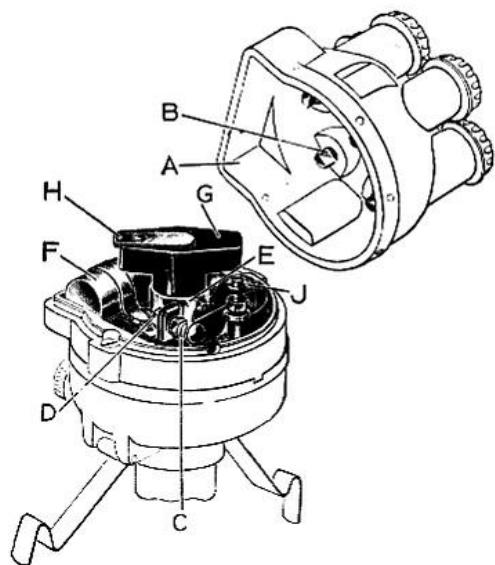
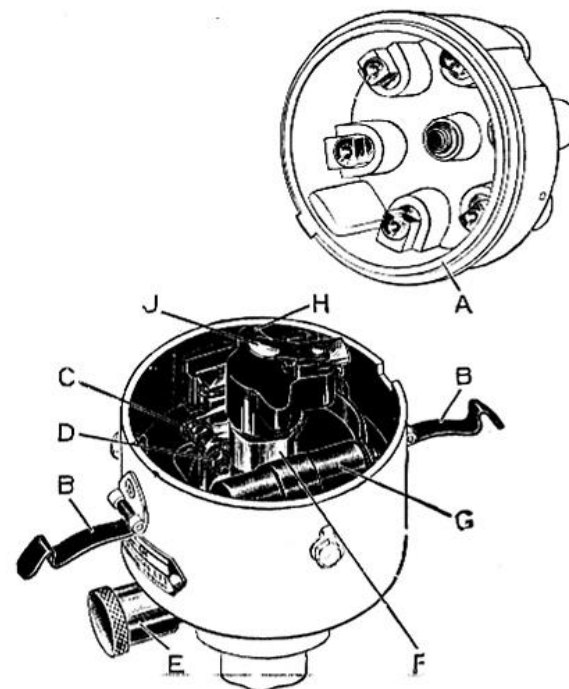

FIG. 2. DISTRIBUTOR AND CONTACT BREAKER TYPE DJ6A.
FIG. 3. DISTRIBUTOR and CONTACT BREAKER TYPE DF6A.
(3) **Distributors with Automatic Timing Control.** About every 3,000 miles withdraw the rotating arm "G" (Fig. 2) or "H" (Fig. 3) from the top of the spindle by lifting it off, and add a few drops of thin machine oil. Do not remove the screw exposed to view, as there is a clearance between the screw and the inner face of the spindle through which the oil passes to lubricate the automatic timing control.